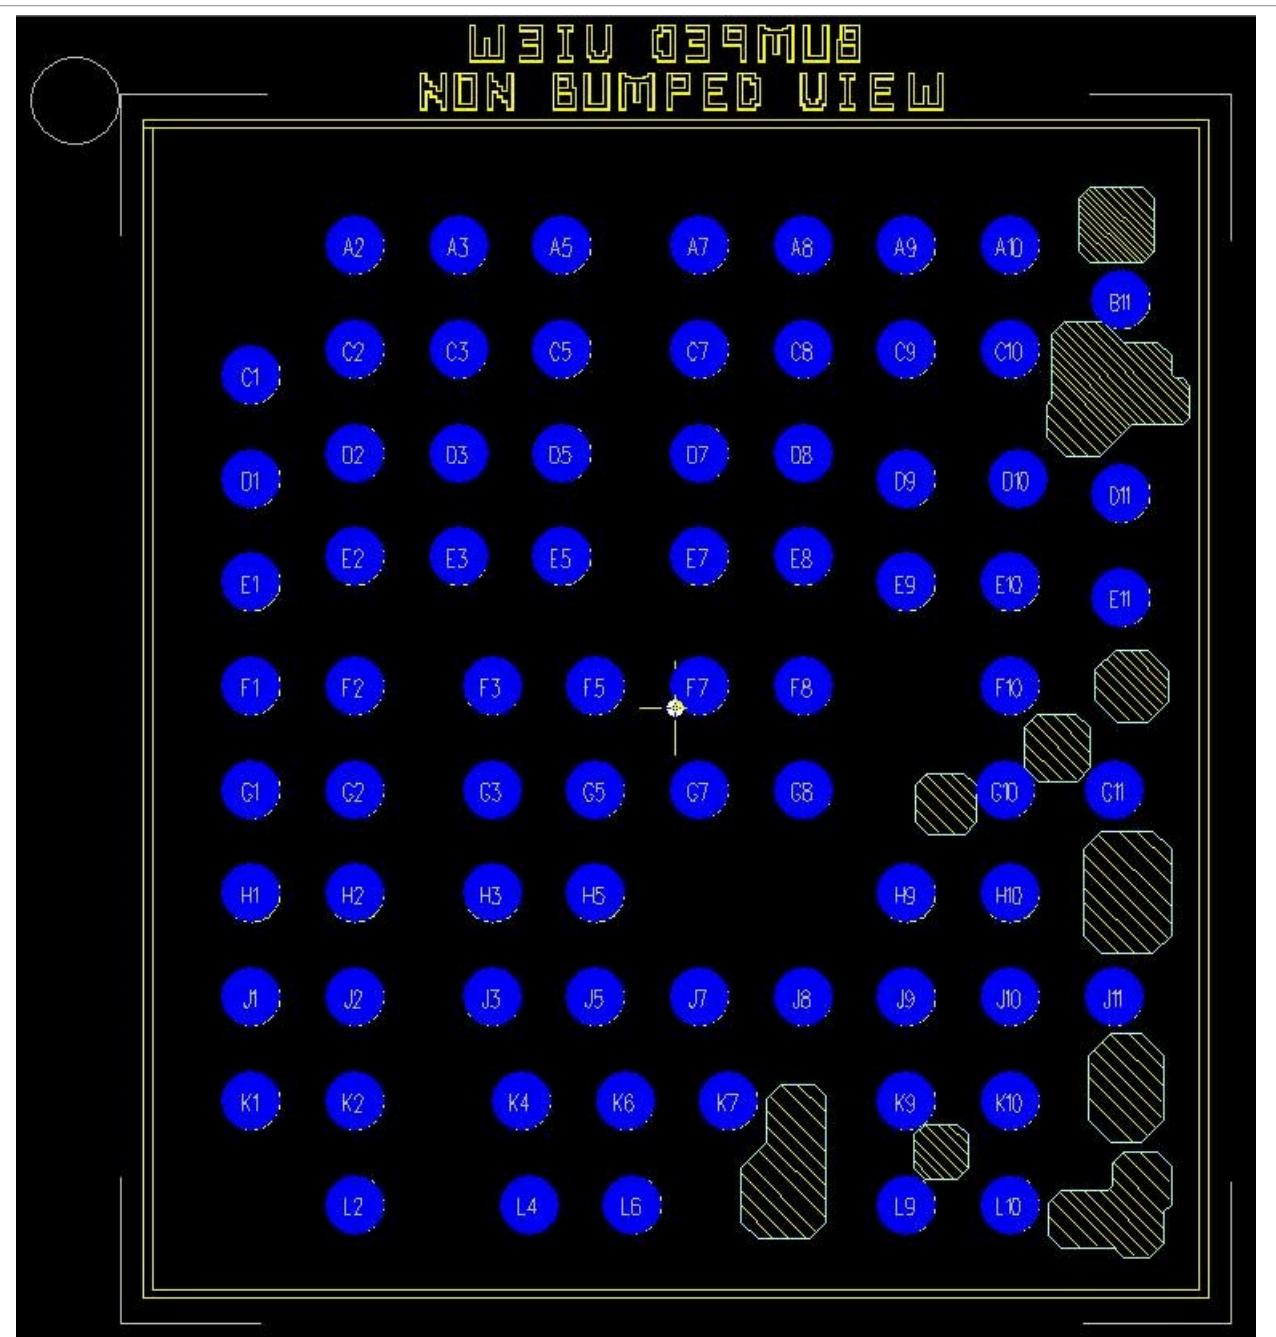

Figure 28. On-chip inductor area under WLCSP package
- For the WLCSP package only, do not route any signal traces, power planes, ground planes over the on-chip inductor keep-out areas. The on-chip inductor keep-out areas are highlighted in Figure 28.